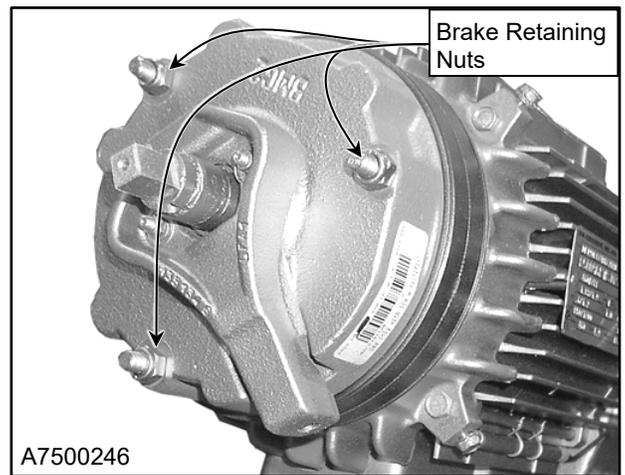
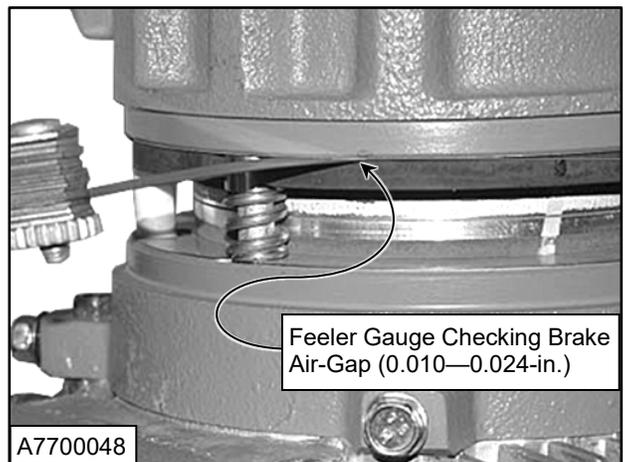

Figure 41
Figure 42
4. Using a feeler gauge and a nut driver, adjust the retaining nuts until you achieve the proper air-gap (0.010–0.024-in.). (See Figure 41 and Figure 42)
NOTE: The 8 to 10 in. dimension shown in Figure 42 is adequate for most Turbo-Seal Insulated doors. However, for some very wide or short doors, the counterweight may have to be adjusted closer to the bottom of the side column. Also, make sure the counterweight guides are properly positioned.